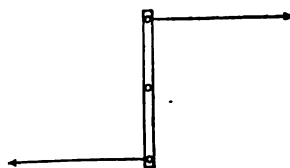

FIG. 68.—A couple.
86. The Couple.—If two parallel forces act upon a body along different lines in opposite directions, as in Fig. 68, they have no single resultant or there is no one force that will have the same effect as the two components acting together. A combination of forces of this kind is called a *couple*. Its tendency is to produce rotation in a body. An example is the action upon a compass needle which is rotated by a force which urges one end toward the north and by an equal force which urges the other end toward the south.